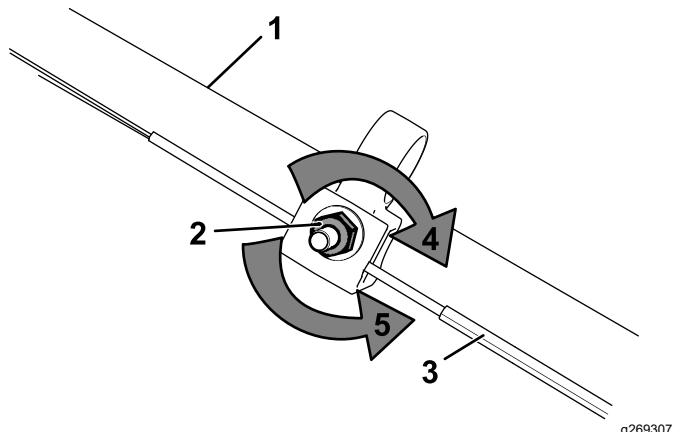

Figure 27
- Turn the adjustment nut counterclockwise to loosen the cable adjustment (Figure 27).
- Adjust the tension on the cable (Figure 27) by pulling it back or pushing it forward and holding that position.